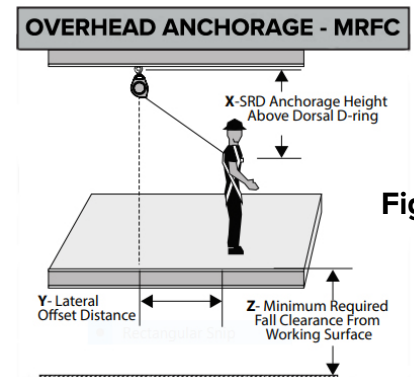

Fig. 7
- The SRL may be anchored anywhere in the allowable attachment area, which ranges from a height above the user to level with the Dorsal D-ring of the full body fall arrest harness (Fig. 7).